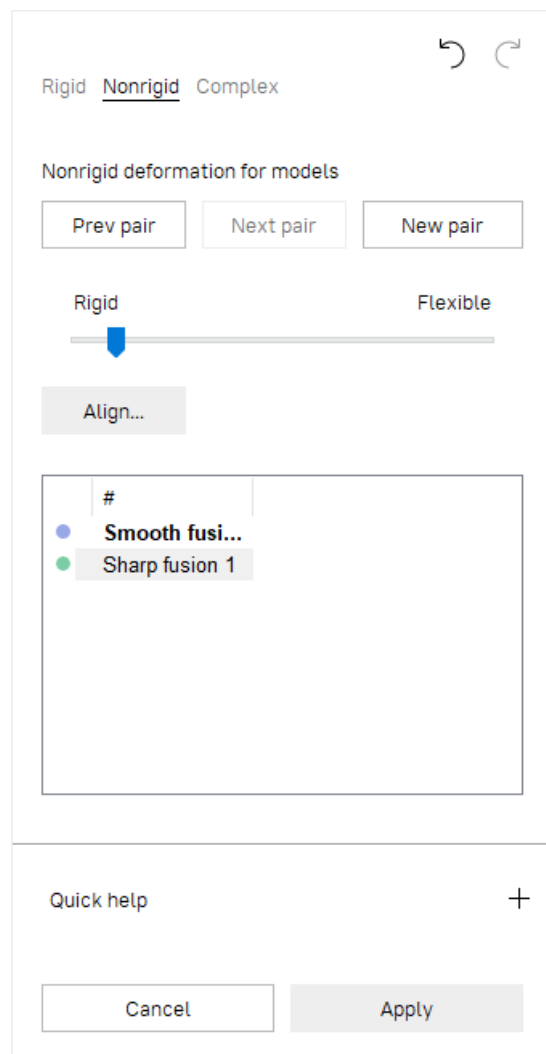

Figure 84: *Align* panel: *Nonrigid* tab.
1. Make sure the *Nonrigid* tab is selected (see Figure 84).